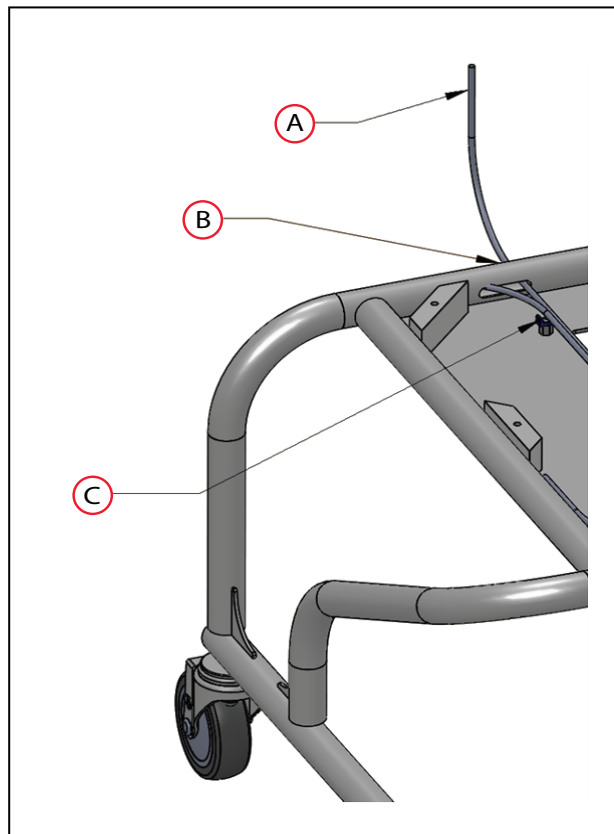

Figure 3-24. Thru-holes for Brake-release Cable, Plate Removed
8. Attach the lever cable housing to the saddle tie. See Figure 3-24.